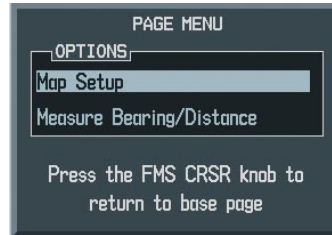

Figure 6-37 Page Menu
- 2) With 'Map Setup' selected (Figure 6-37), press the **ENT** Key.